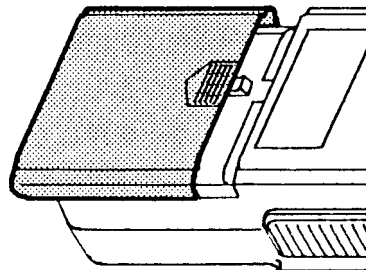

**Figure 1**
Connect the AR8000 to the [PROGRAM] socket of the CU8232 as outlined earlier in section (3) and figure 1.